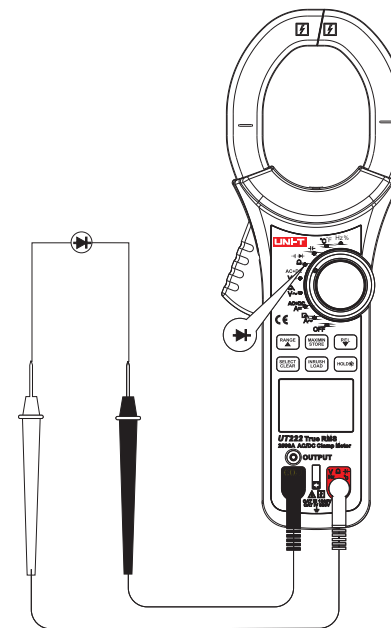

Figure 8
5. Diode measurement ➡ (See Figure 8)